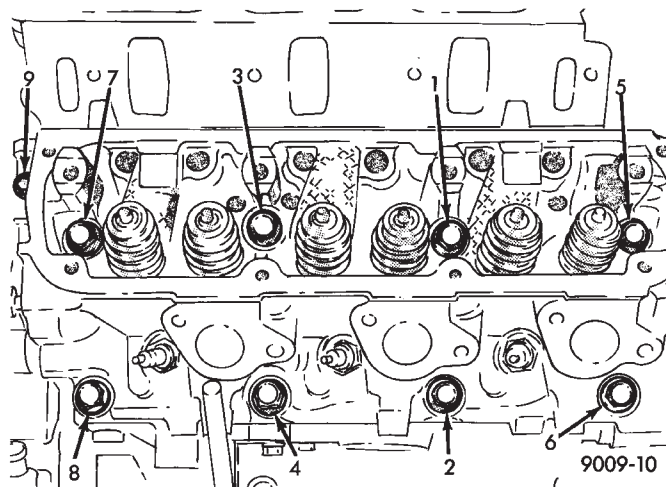

Fig. 6 Cylinder Head Bolts Location
- (1) Drain cooling system refer to Cooling System Group 7 for procedure and disconnect negative battery cable.
- (2) Disconnect coil wires, sending unit wire, heater hoses and by-pass hose.
- (3) Remove closed ventilation system, evaporation control system and cylinder head covers.
- (4) Remove exhaust manifolds.
- (5) Remove rocker arm and shaft assemblies. Remove push rods and **identify to insure installation in original locations.**
- (6) Remove the 9 head bolts from each cylinder head and remove cylinder heads (Fig. 6).